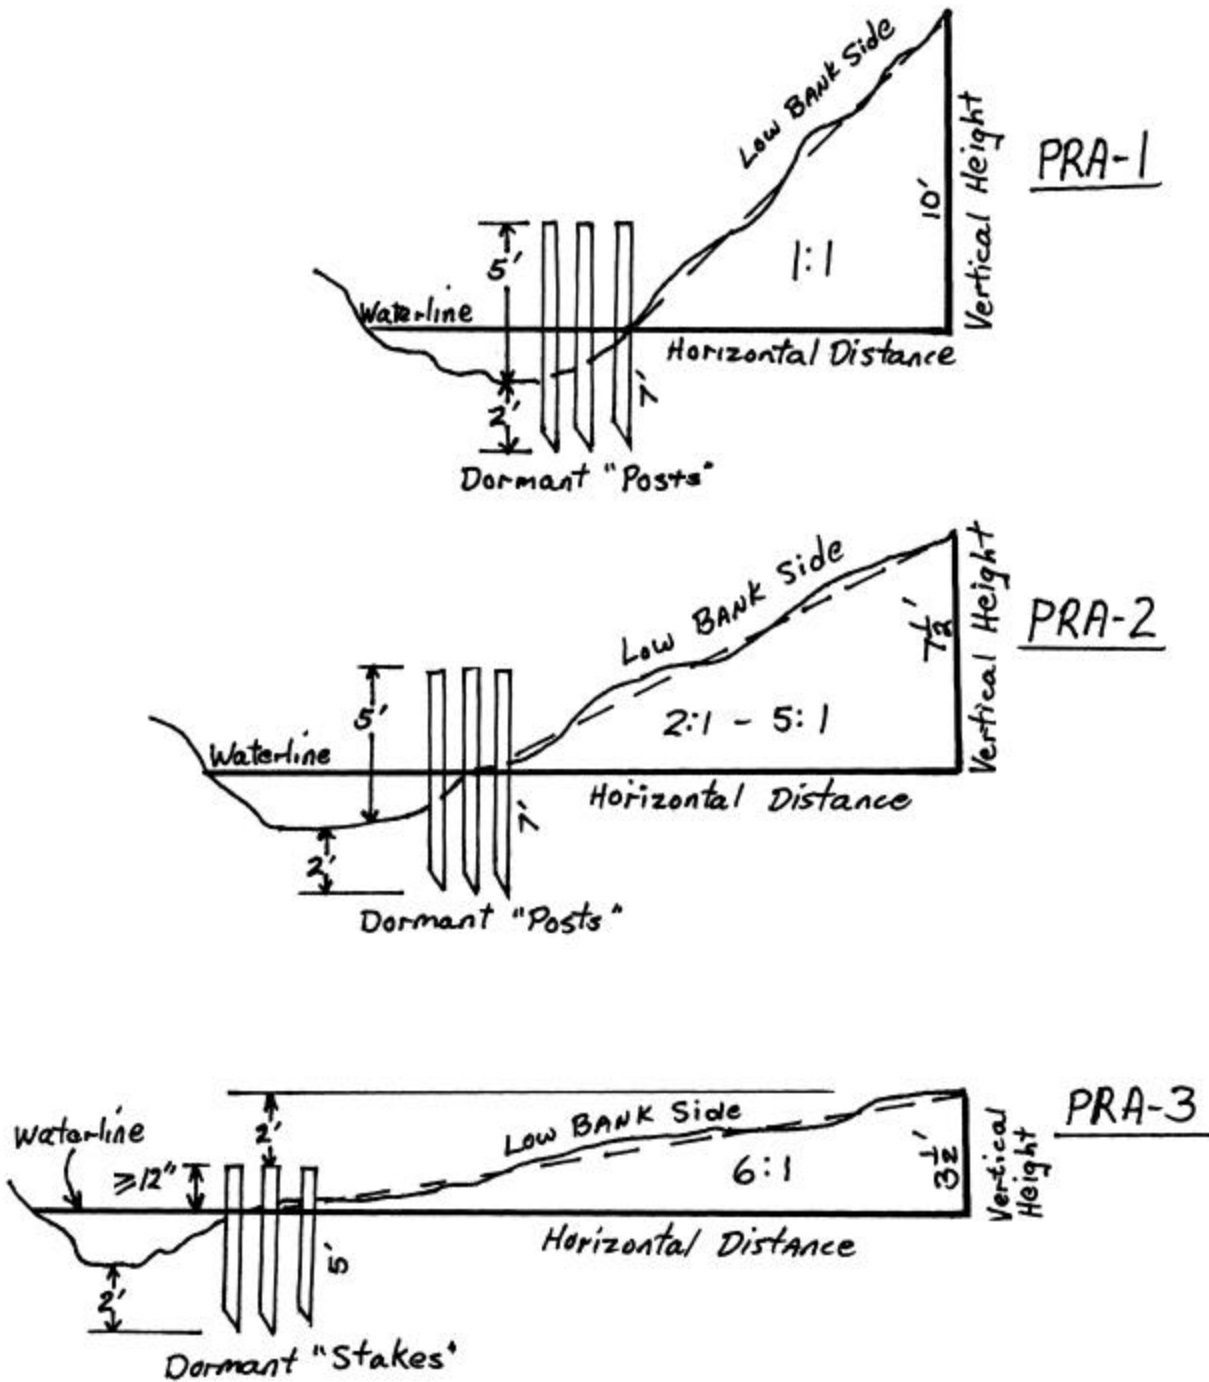

Figure 4
Planting row arrangement shall conform to those minimums listed in the standard and specification for this practice (see Figure 4).
3. Determine the ratio of horizontal distance to vertical height of the streambank (low bank side) for row arrangement to be used (see figure 4):